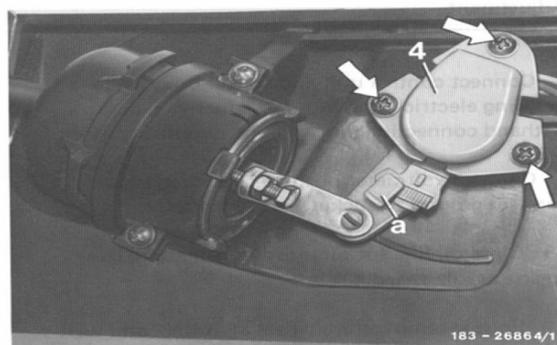

Fig. 1
- D. Set temp wheel at "MIN", using a 5.5mm socket, and long extension and swivel adapter, turn adjustment screw until 2.5 volts is measured on the voltmeter.(see Fig. 1)(clockwise lowers voltage, counter clockwise increases voltage)